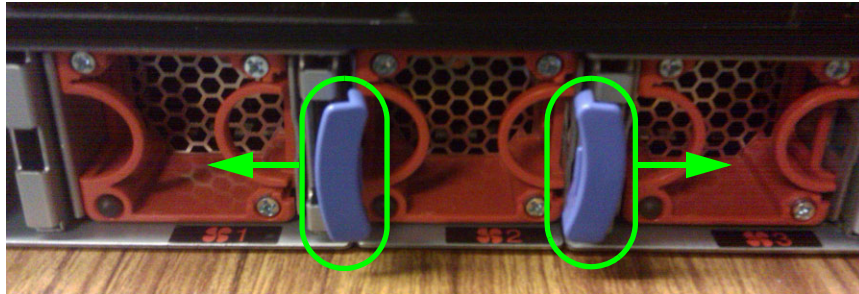

Figure 7-12 Blue release tabs for the memory tray cam levers
3. As shown in Figure 7-12 on page 315, there are two blue release tabs at the front of the MAX5. When pressed to the sides of the enclosure, they allow you to pull out the cam levers that are used to begin to pull out the memory tray.